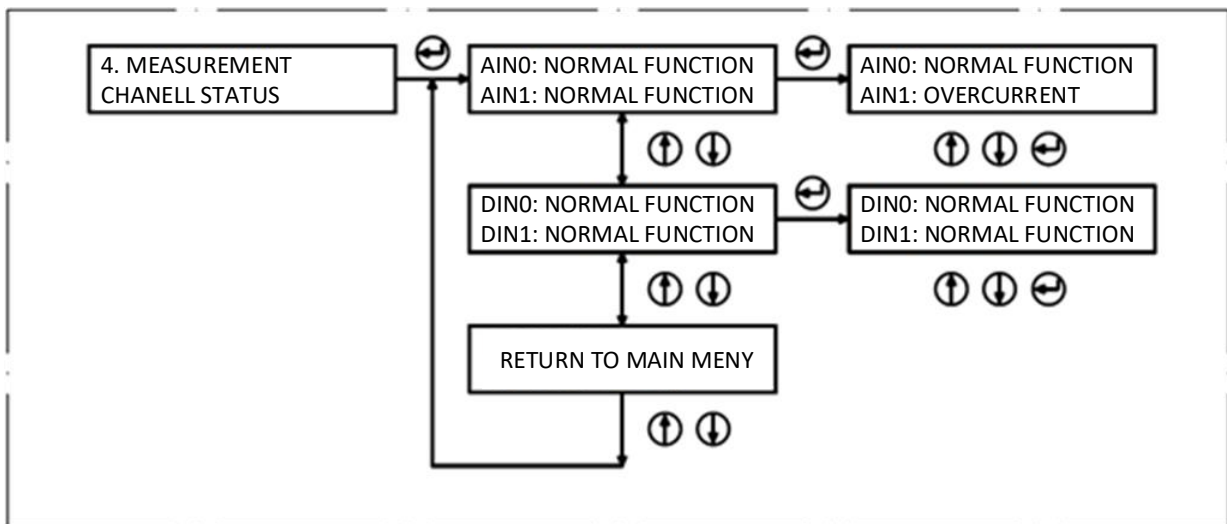

Fig.9. Measuring channels state
4.6 Internal software of signal transducer controls operability of measuring channels via feed circuit. If at some channel current consumption is exceeded so it can be seen on the screen fig 9